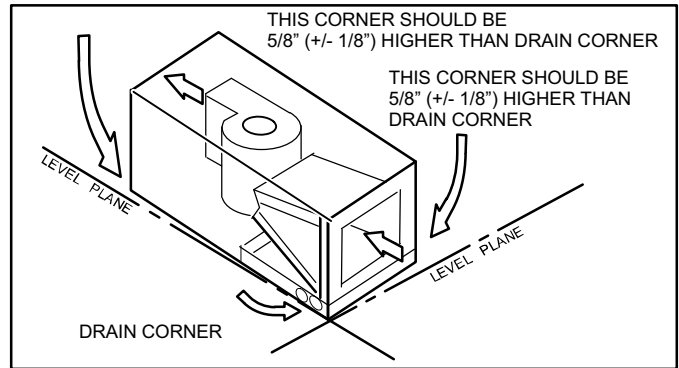

Figure 8. Sloping the Drain
4. Set unit so that it is sloped toward the drain pan end of the unit (see figure 8 on page 6).
Make sure the unit is sloped (similar to the slope shown in figure 8) so that the drain pan will empty completely without water standing in the pan.